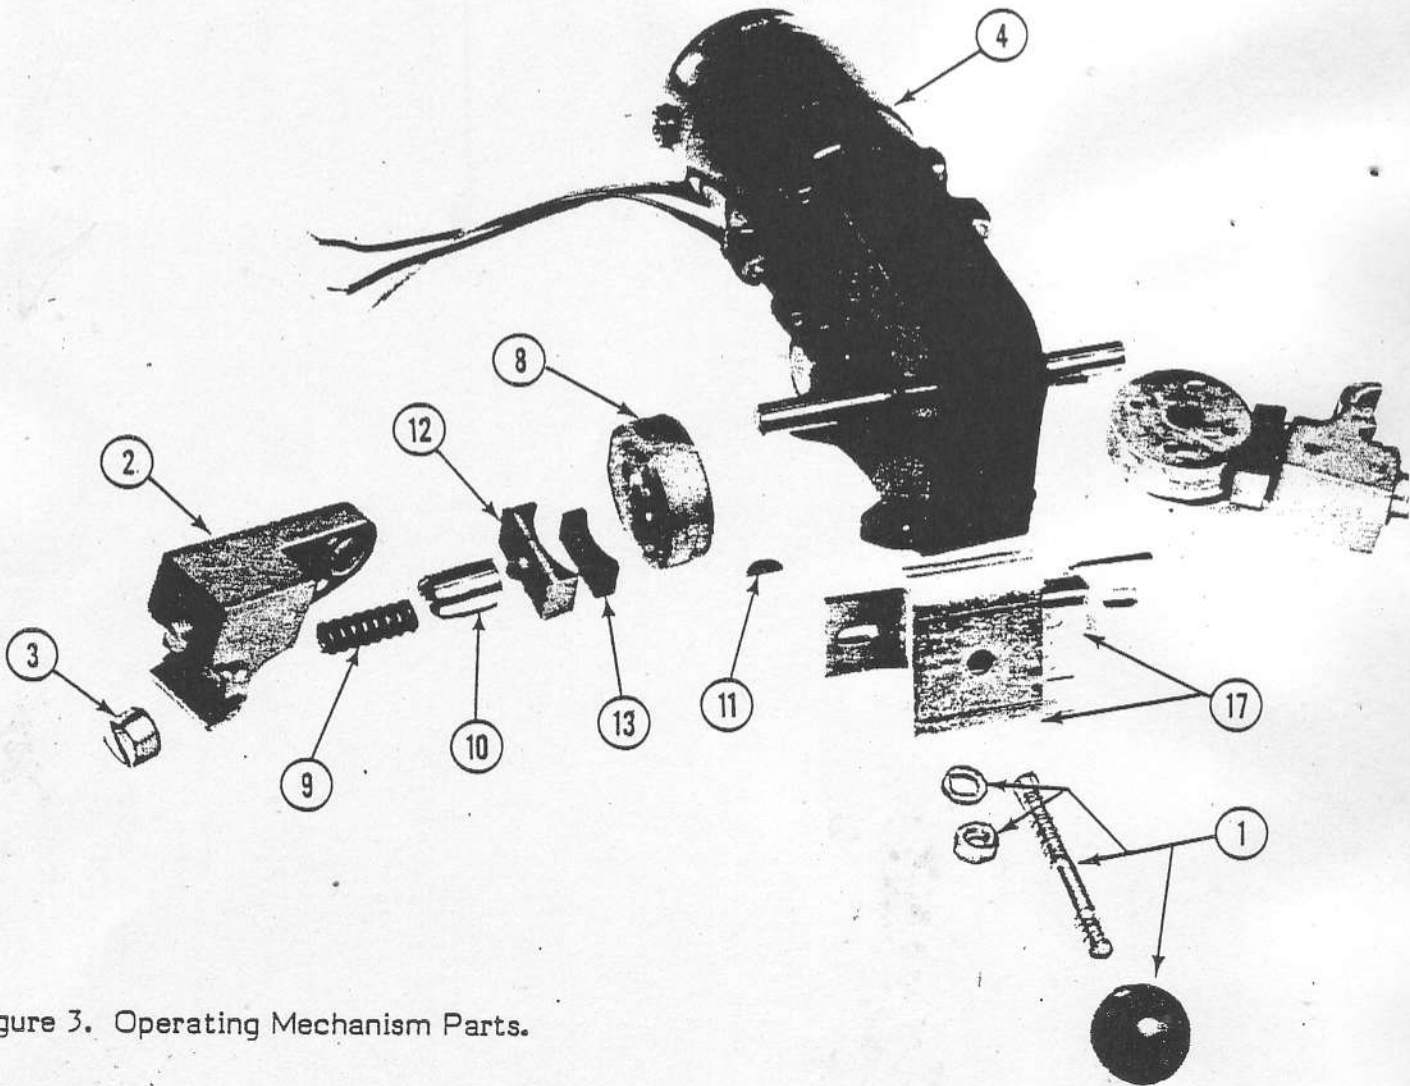
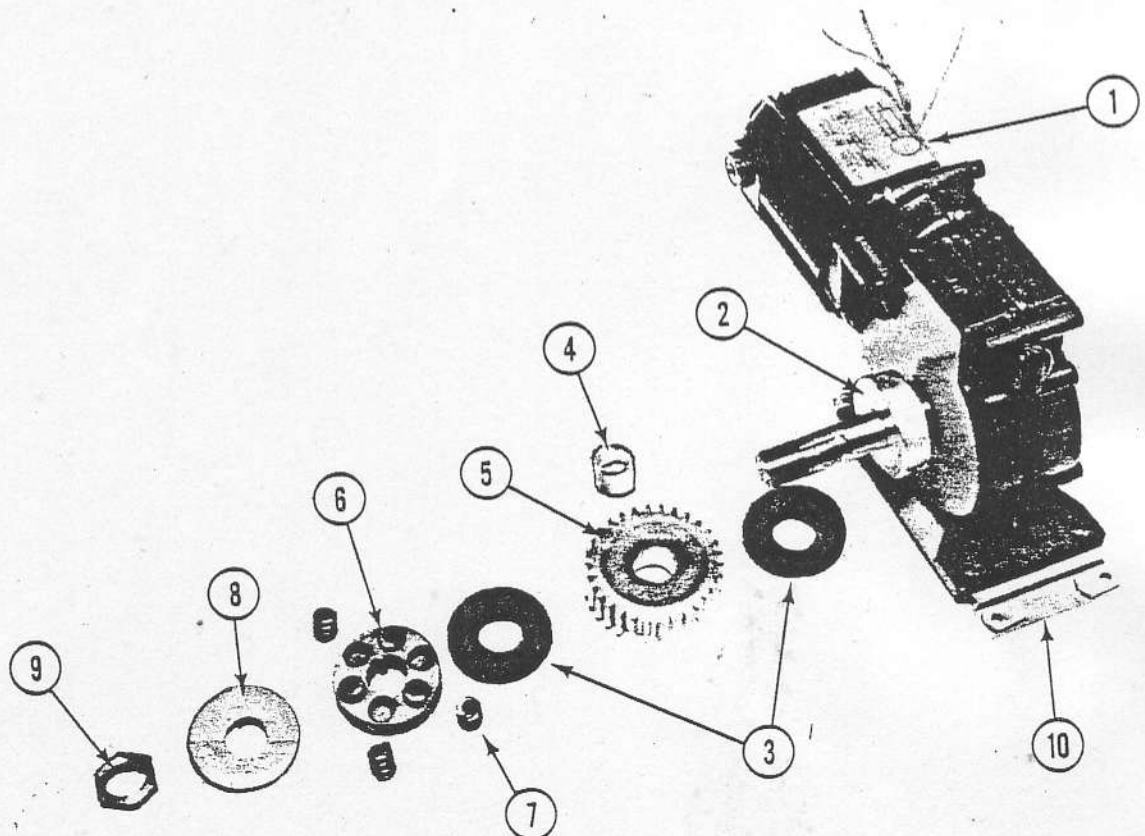

Figure 3. Operating Mechanism Parts.
Figure 4. Operating Mechanism Parts.
The operating mechanism pictured in Figure 3 (page 13) is used on Styles 2, 3 and T-200 transfer switches. The motor (4) is a universal type, reversible gear motor and is shipped as a complete component including the gear box. Because of the wide range of circuit breakers used on Lake Shore Electric Transfer Switches, if motor replacement is necessary, please specify the serial number of the transfer switch. The operating mechanism pictured in Figure 4 (page 14) is used on all Style 2, 1600 Amps Switches and larger.